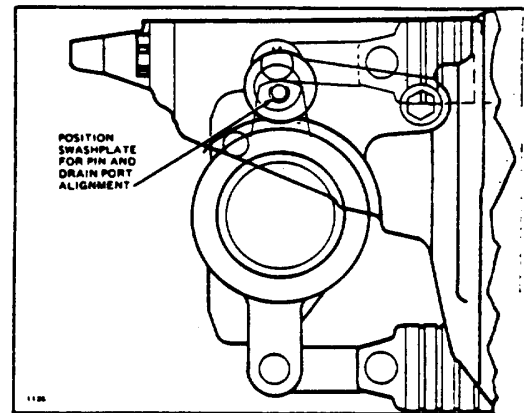

FIGURE 5. Location of swashplate assembly in pump housing
- 5. Remove the pin from the drag link and swashplate through the case drain port using a magnet or other tool. Remove the drag link. On some models it may be necessary to hold the swashplate off neutral to align the pin with the case drain hole. See Figure 5.